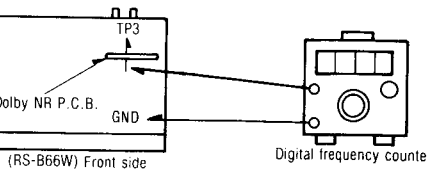

Fig. 8
8. The output is then (A) Hz.
9. Make the connection as in Fig. 8.
11. Adjust VR981 (for high speed adjustment) so that the output between TP3 and ground is 6 times the (A) Hz of step 8 ((A) Hz×6)Hz).